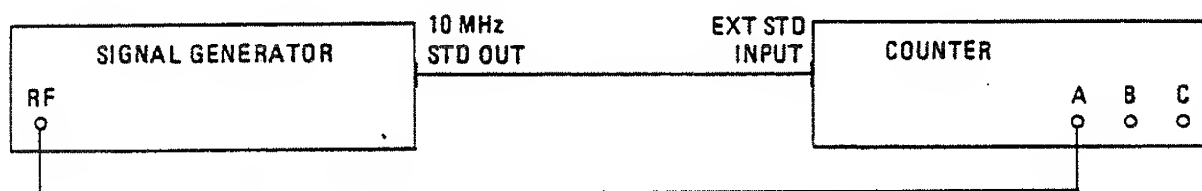

Fig 6.9A Connections for Input A Sensitivity PVP (I)
- (1) Turn on the counter. Select 50 ohms for Input A.
- (2) Connect the test equipment as shown Fig 6.9A. Verify that the EXT STD LED lights.